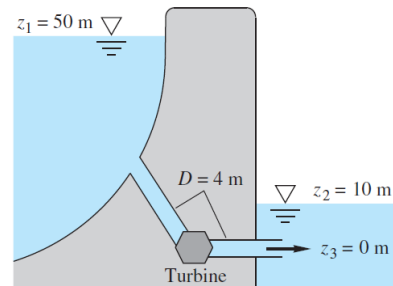

Fig. 3.27
3.27* The large turbine in Fig. 3.27 diverts the river flow under a dam as shown. System friction losses are $h_f = 3.5V^2/(2g)$, where V is the average velocity in the supply pipe. For what river flow rate in m³/s will the power extracted be 25 MW? Which of the two possible solutions has a better “conversion efficiency”?